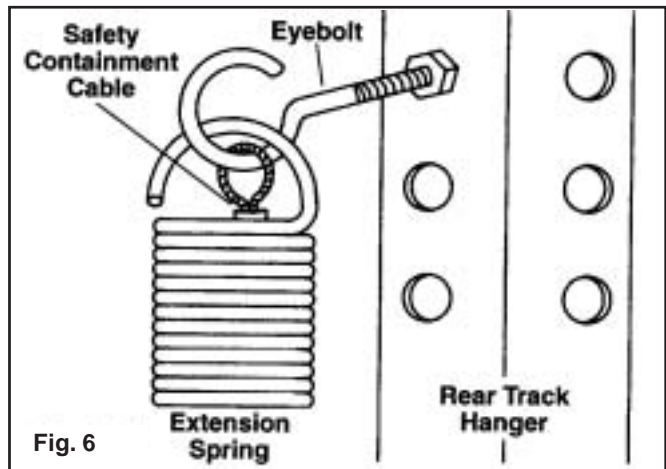

Fig. 6
Step 5: Hook one end of an extension spring over the $\frac{5}{16}$ " eye bolt and allow to hang down temporarily. Attach a sheave fork assembly on the free end of the spring. Locate safety containment cable and run looped end through the extension spring and over the eye bolt. Feed free end of safety containment cable through the black bushing installed on the flange of the sheave fork and into key slot on the housing bracket. Pull the safety containment cable taut and clamp in place with a #14 x $\frac{5}{8}$ " sheet metal screw. Make sure the sheet metal screw is seated all the way against the flange of the housing bracket. (FIG. 6 & 7).